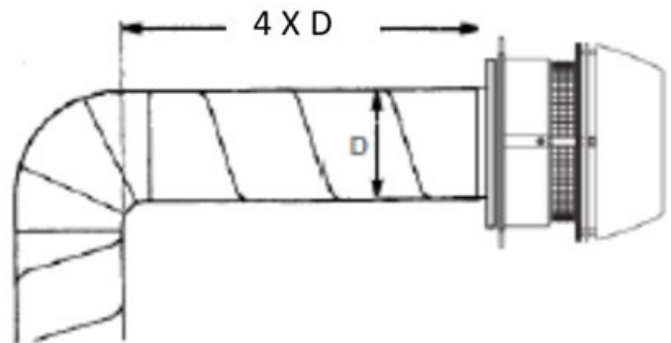

FIGURE 33
7. In order to achieve optimal performance and energy consumption for the RS Fan, the duct must be installed as shown below and the distances observed. From the last elbow to the termination point the distance must be 4 times the diameter of the flue. For example, if you using 12in flue (12 X 4 = 48in). The distance from the last elbow to the fan termination point should be 48 inches. (**Figure 33**)